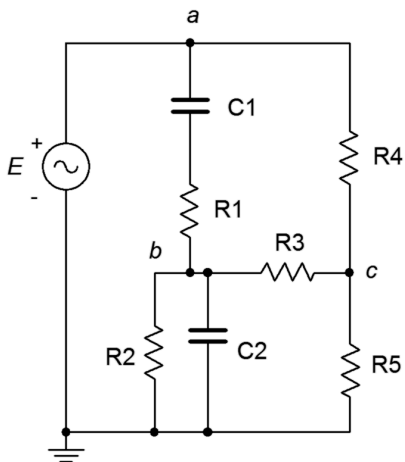

Figure 5.50
86. Find voltage v_{bc} in the circuit of Figure 5.50 through the use of one or more delta-Y conversions. $E = 100\angle 0^\circ$, $R_1 = R_2 = 2\text{ k}\Omega$, $R_3 = 3\text{ k}\Omega$, $R_4 = 10\text{ k}\Omega$, $R_5 = 5\text{ k}\Omega$, $X_{C1} = X_{C2} = -j2\text{ k}\Omega$.